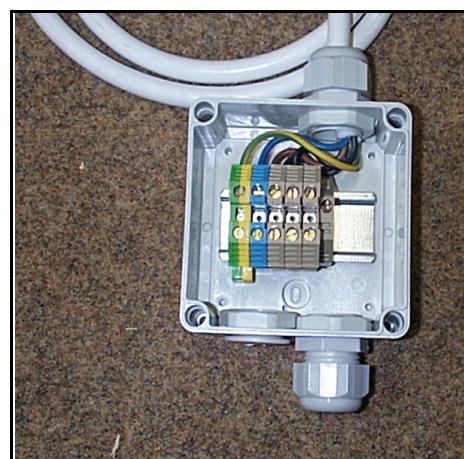
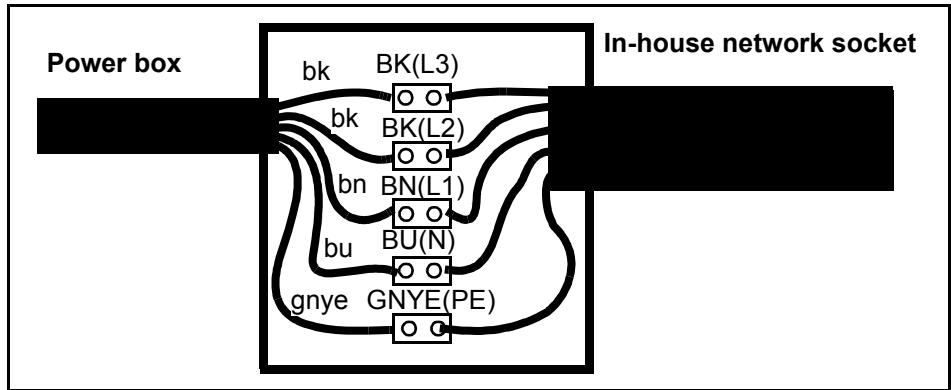

Figure 5
Figure 6
4. Strip the wires on the power cable, insert, and secure the wires to the terminals as follows: (see Figure 5 and Figure 6):
- b) Attach the blue wire to the (BU) terminal.
- c) Attach the brown wire to the (BN) terminal.
- d) Attach each of the two black wires that emerge from the mains cable to a separate (BK) terminal on the distribution socket.